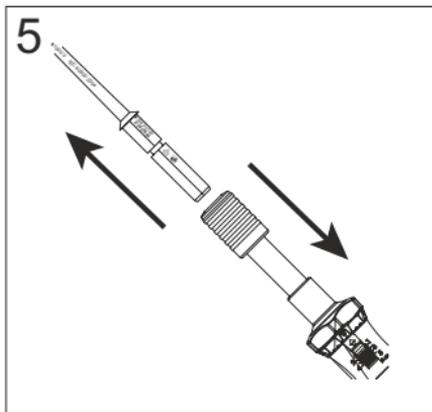

Рисунок 5 / Figure 5
Select the dielectric tip required for operation in accordance with the standard size of the fastener. Place the tip into the dynamometric handle (4) until it clicks into place. To remove the tip, slide the fixing sleeve (1) towards the dynamometric handle (4) (Figure 5).